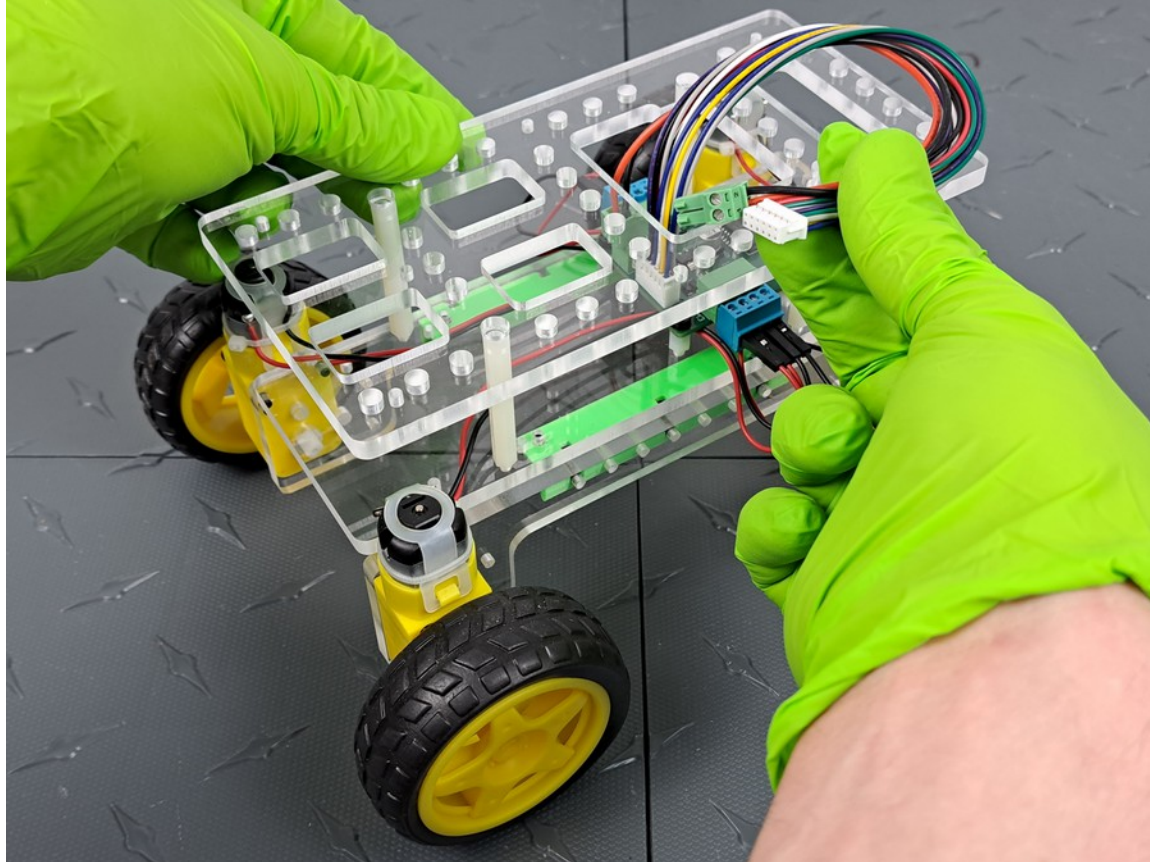

Figure 12 – Reinstall Upper Platform Plate
**12. Reinstall the Upper Platform Plate, making sure to route the signal and voltage cables as shown in figure 12 above.**